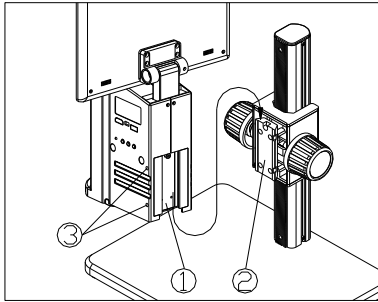

Fig. 1
1) Match the dovetail interface① of the microscope body with the dovetail groove② of the focus bracket group, and insert it from top to bottom as the direction shown in the figure, fix the screw in the screw groove.
2) Tighten the M4 inner hexagon screw on the body group③ with a M4 inner hexagon spanner (side length 2mm).(See Fig.1)